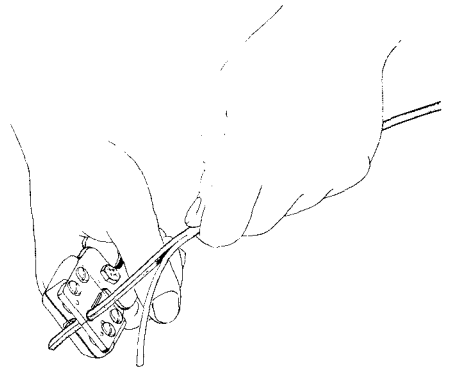

Fig. 3—Splicing C Rural Wire
3.02 To remove the insulation from conductor, place conductor in notch of stripping blades as shown in Fig. 3 and pull insulation from conductor. It may be necessary in some instances to rotate the wire slitter a half revolution in each direction to completely score insulation before pulling it off.